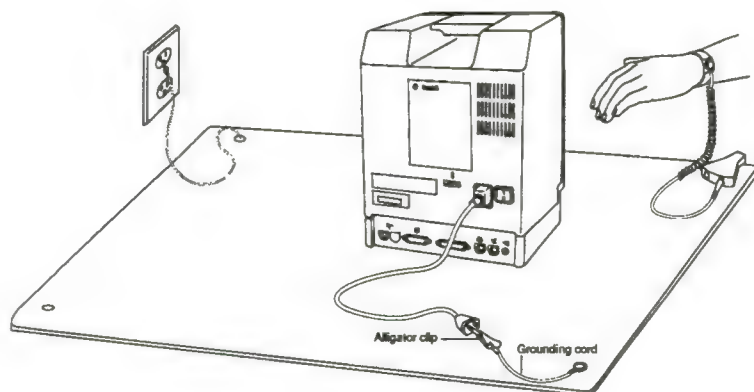

Figure 4. Grounding the Computer
5. Insert the power cord of the computer into the computer power socket. Do not plug the other end of the power cord into the wall outlet. Instead, use the ground cord with alligator clips to connect the ground pin (the long pin, sometimes called the "third wire") of the computer power cord to the workbench mat, as shown in Figure 4.